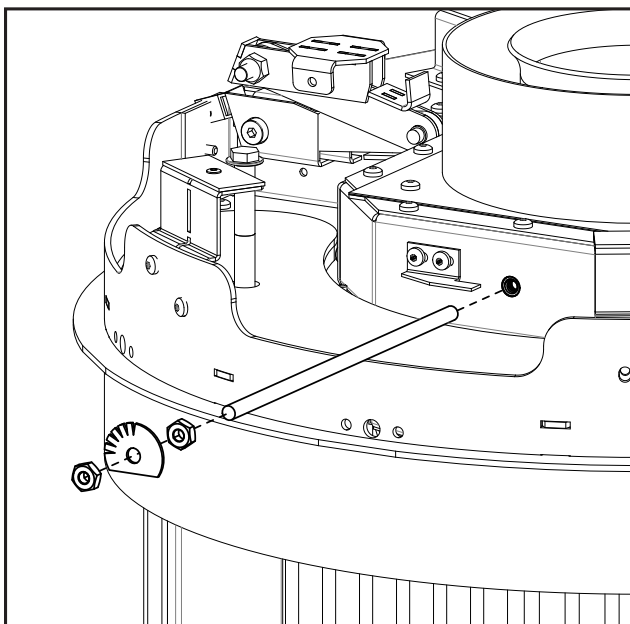

Figure 63: Restrictor Rod Removal
6. Remove the threaded rod from the exhaust spigot (see Figure 63). A power drill with a 7/16" socket and extension will be helpful here.